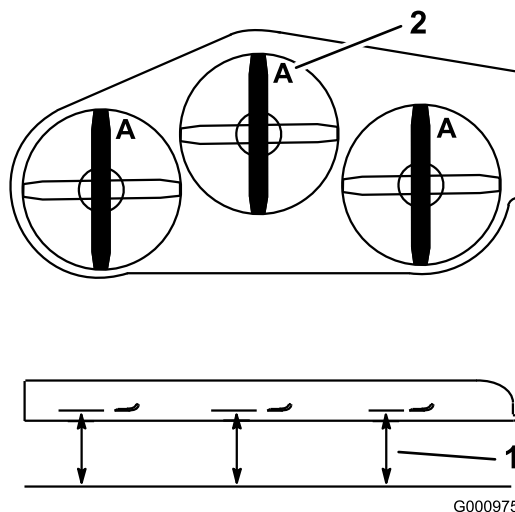

Figure 93
3. Rotate the blades until the ends face forward and backward (Figure 93).
4. Measure from a level surface to the cutting edge, position **A**, of the blades (Figure 93).